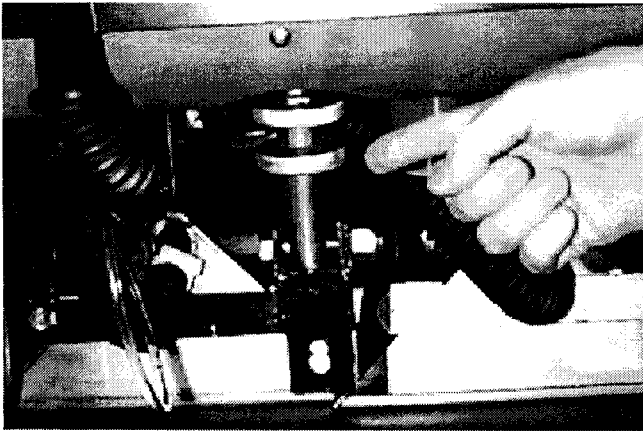

FIG. 10.
3. Locate adjustment knobs on adjustment shaft and loosen the bottom knob. (Figure 10)